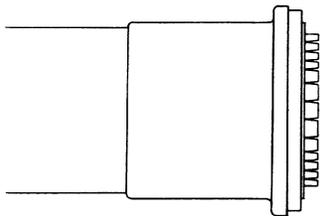

Figure 7.
8. Make longitudinal cuts in the waveguide down to the backnut face with light metal snips. Space the cuts 1/8 to 1/4 of an inch apart, with the narrower spacing being on the small radii of the ellipse. See Figure 7.